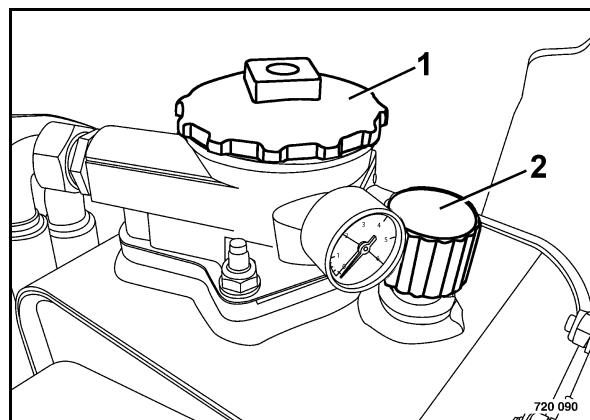

Fig. 124
- Unscrew the filter cover 1 (Fig. 124) and take out the filter element.